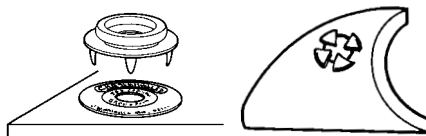

Figure 9. Installing push and clinch mat grounding snap.
- The second type of mat grounding snap is the push and clinch snap. This snap is designed for use with any type of soft mat material: dissipative, conductive or multi-layered. It is recommended for use with three-layered material, because it provides excellent contact with the internal conductive layer. It is recommended that before inserting this snap, the mat be punctured with a sharp tool where the snap will be placed. This type of snap is available as a snap socket item 80008.
- Center the prongs on the snap assembly with the label. Apply pressure to the snap until the prongs come through the back of the mat, then clinch over prongs to secure snap as shown in Figure 9.